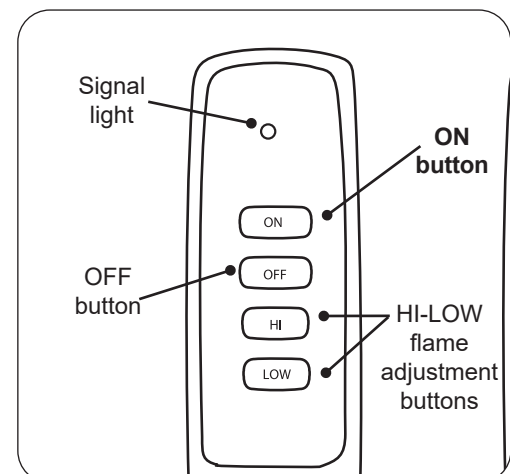

Fig. 26-3 Remote transmitter detail
3. Locate the remote transmitter and press the **ON** button (see Fig. 26-3). The system will beep and the ignition sequence will begin.